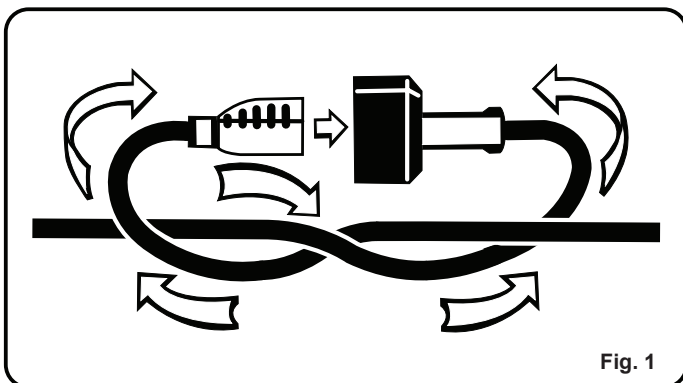

Fig. 1
- **Extension Cord** – To reduce the risk of disconnection of appliance cord from the extension cord during operating, it is possible to tie the extension cord and power cord in a knot to prevent them from becoming disconnected during use. Make the knot as shown in figure 1, then connect the plug end of the power cord into the receptacle end of the extension cord. This method can also be used to tie two extension cords together.